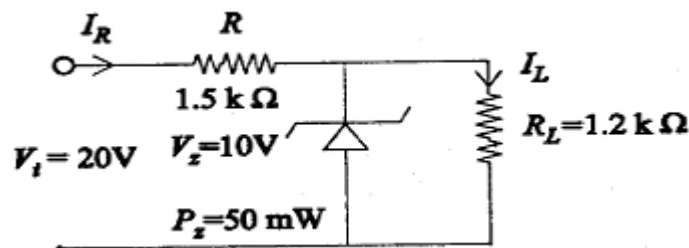

Fig.4
- a. The Wien-bridge oscillator is a commonly used low-frequency oscillator. This circuit achieves regenerative feedback by introducing no phase shift (0°) in the positive feedback path. As shown in Figure 4, there are two RC circuits in the positive feedback path (output to noninverting input).